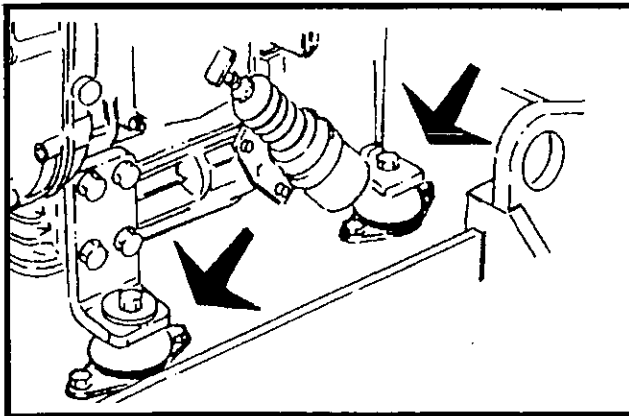
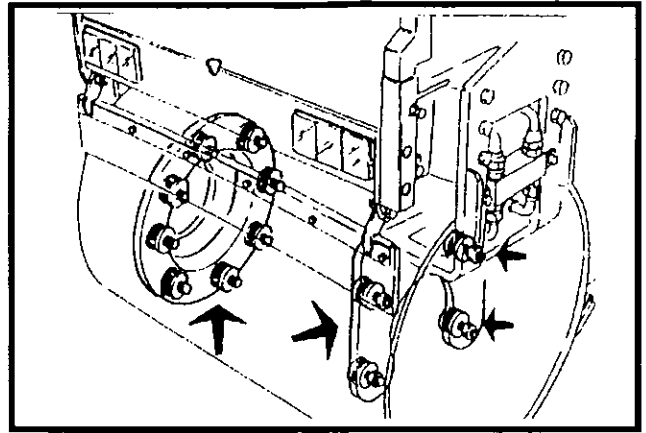

Figure 5-5 Engine Shock Mounts
Figure 5-6 Drum Shock Mounts
1. Check all engine shock mounts (Figure 5-5) and drum shock mounts (Figure 5-6), periodically for looseness or deterioration.